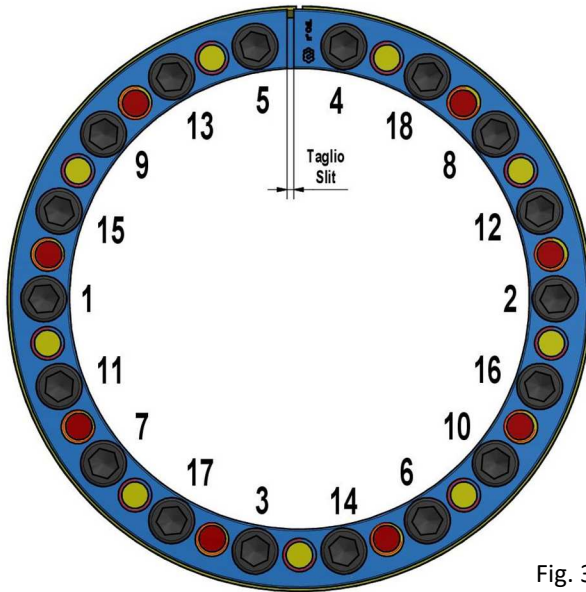

Fig. 3. Example of tightening pattern.
4. Tighten the screws by hand in a crosswise pattern, starting with a screw located at 90° approx. respect to slit in the front thrust ring (fig. 3), until fitting clearances with shaft and hub bore are bridged and connected components are slightly locked, while making sure that hub is aligned as required using a dial indicator. **Better centering of hub from the beginning of installation is essential for better centering when installation is completed.**
5. Use a torque wrench set approx. 5% higher than specified tightening torque (Ma), or reduced within admissible value. **Progressively tighten the screws in a crosswise pattern (fig. 3), using approx. ¼ turns for several passes until ¼ turns can no longer be achieved. Start with a screw located at 90° approx. respect to slit; screws adjacent to slit shall be tightened in a row.**